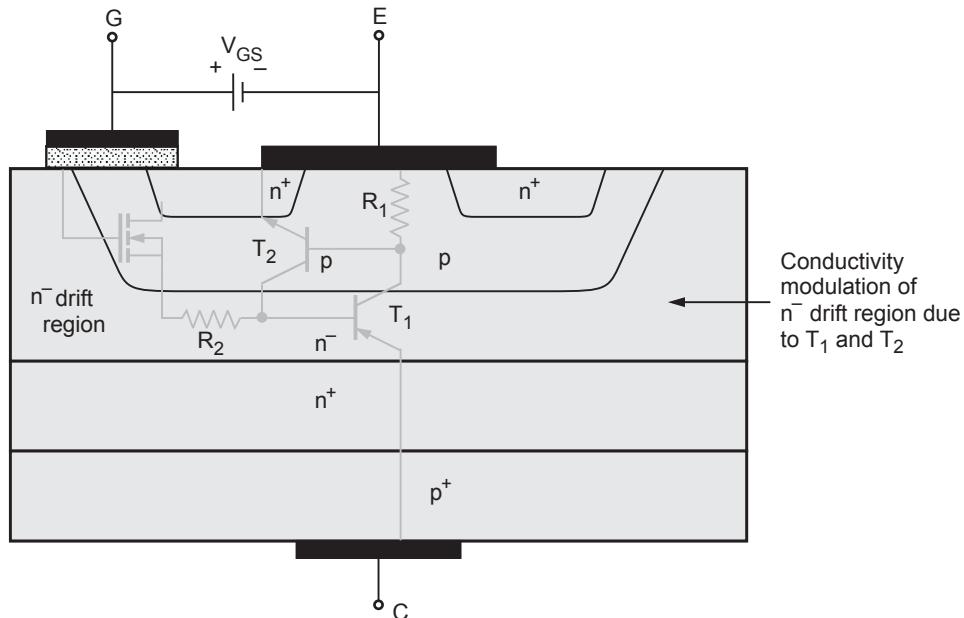
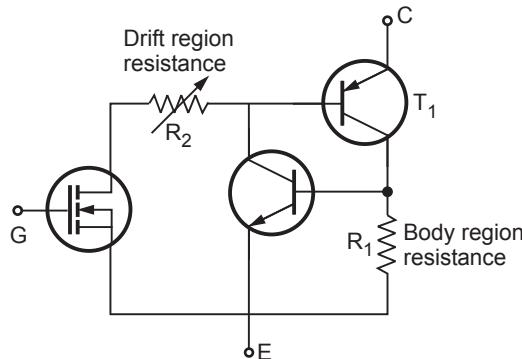

Fig. 1.6.4 Structure of IGBT
Fig. 1.6.5 Equivalent circuit of IGBT
Now let us see how p^+ injecting layer makes the operation different than MOSFET. Fig. 1.6.4 shows the structure of IGBT showing how internal MOSFETs and transistors are formed. The MOSFET is formed with input gate, emitter as source and n^- drift region as drain. The two transistors T_1 and T_2 are formed as shown. The holes injected by the p^+ injecting layer go to the n^- drift region. This n^- drift region is base of T_1 and collector of T_2 . The holes in the n^- drift region further go to the p-type body region, which is connected to the emitter. The electrons from n^+ region (which is emitter) pass through the transistor T_2 and further in the n^- drift region. Thus holes and electrons are injected in large amounts in n^- drift region. This reduces the resistance of the n^- drift region. This is called *conductivity modulation* of n^- drift region. Note that such conductivity modulation does not exist in MOSFET. The connection of T_1 and T_2 is such that large amount of hole/electrons are injected in n^- drift region. The action of T_1 and T_2 is like SCR which is regenerative. The gate serves as trigger for T_1 through internally formed MOSFET. Fig. 1.6.5 shows the equivalent circuit. In this figure observe that when gate is applied ($V_{GS} > V_{GS(th)}$), the internal equivalent MOSFET turns on. This gives base drive to T_1 . Hence T_1 starts conducting. The collector of T_1 is base of T_2 . Therefore T_2 also turns on. The collector of T_2 is base of T_1 . Thus the regenerative loop begins and large number of carriers are injected in n^- drift region. This reduces the on-state loss of the IGBT just like BJT. This happens due to conductivity modulation of n^- drift region.
- **Causes of latchup :** The current in p-type body region flows vertically as well as laterally. In equivalent circuit of Fig. 1.6.5 observe that the lateral component of current flows through the body region resistance R_1 . Therefore the drop across this body region resistance is sufficient to turn-on npn transistor T_2 . Therefore pnp transistor T_1 is also turned on and regeneration takes place. Under this situation gate has no control over the current flow. Thus IGBT remains in ON condition even if gate drive is removed.
In Fig. 1.6.4 observe that various layers of IGBT form internal parasitic thyristor. i.e. ($p^+ - n^- - n^- - p - n^+$). The body-source short avoids possible turn-on of this parasitic